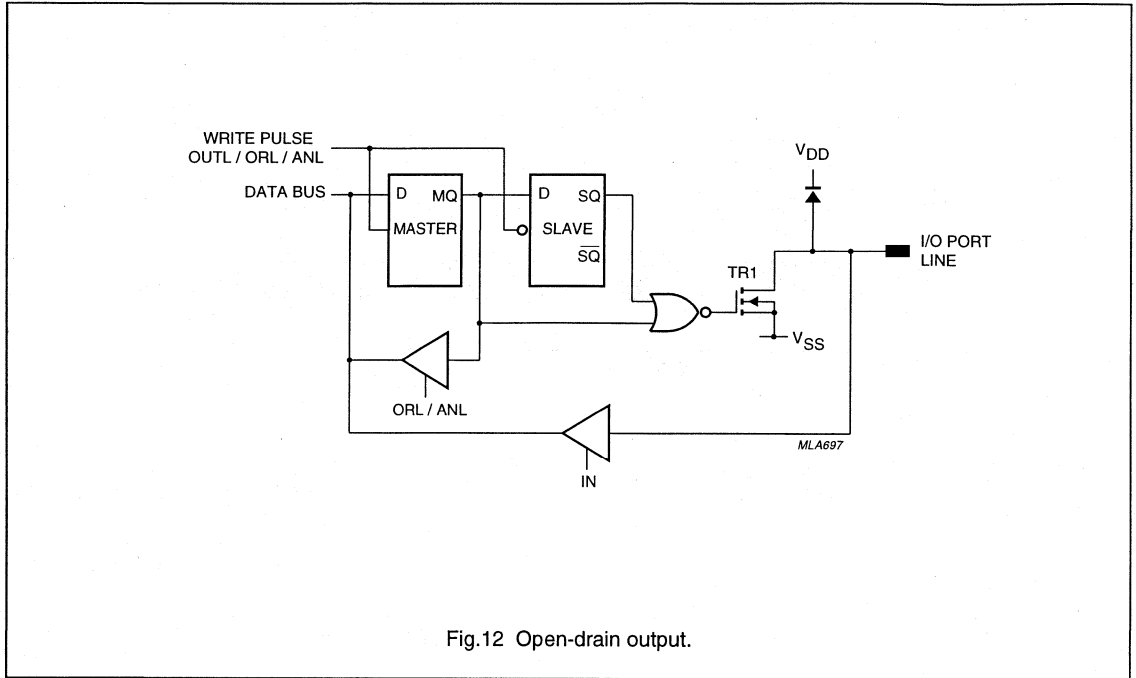

Fig.12 Open-drain output.
2. Open-drain; quasi-bidirectional I/O with only an n-channel open-drain output. Application as an output requires connection of an external pull-up resistor (see Fig.12). If unused, an Option 2 output should be tied to V_{SS} . This keeps the input path from floating, thereby avoiding undesirable current flow through input stages.
configuration 2	open-drain output (see Fig.12)